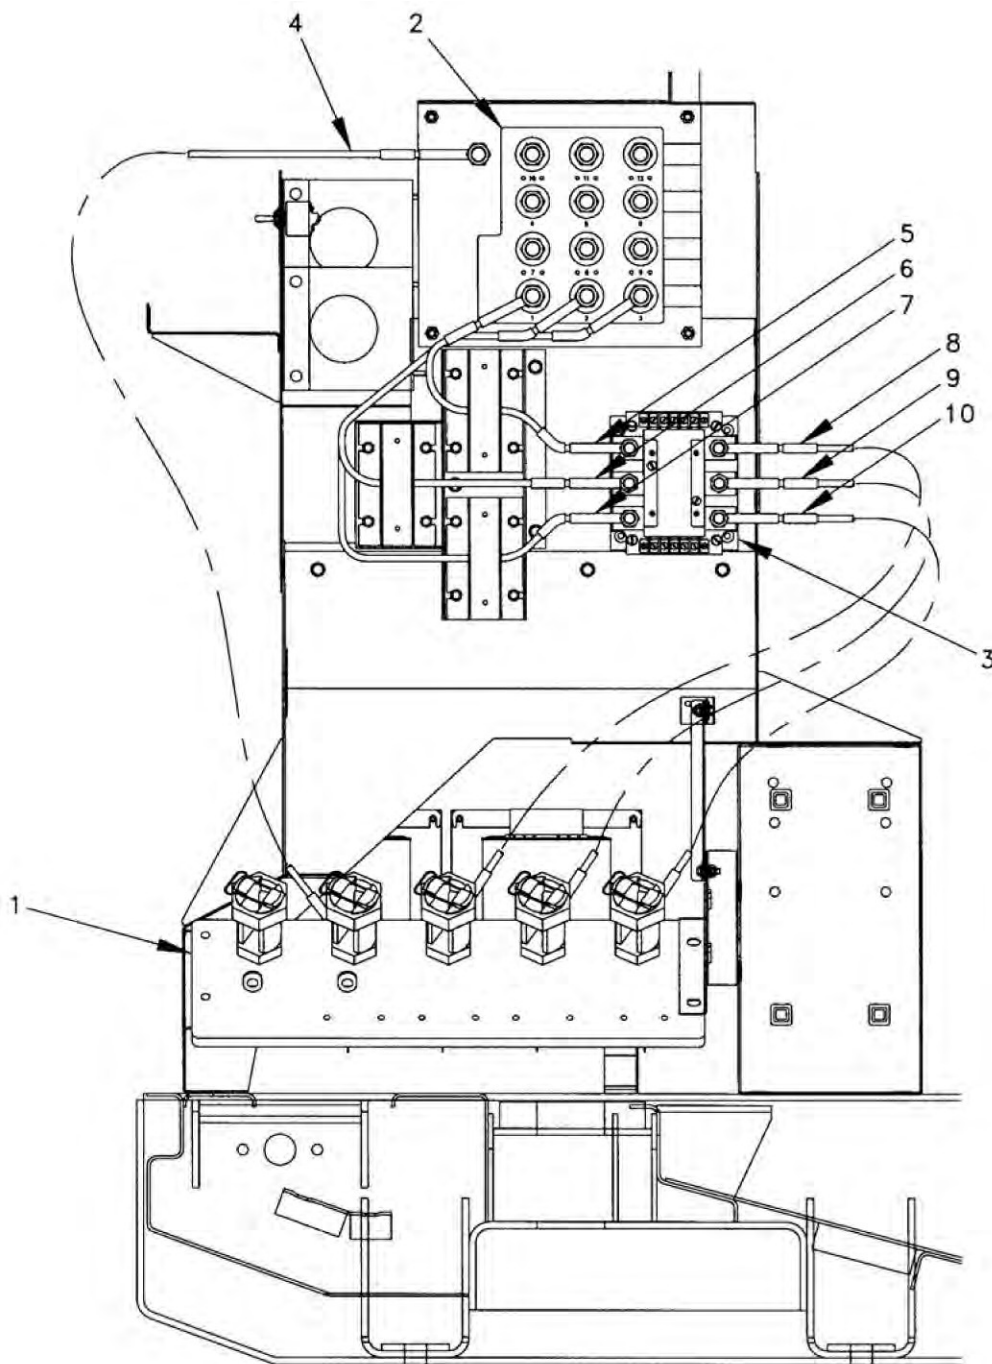

Figure 1. Power Cable Assemblies.
3. Partly remove load terminal board assembly (Figure 1, Item 1), (WP 0044) sufficiently to gain access to rear of load terminal board assembly.
4. Partly remove reconnection terminal board (Figure 1, Item 2), (WP 0043) sufficiently to gain access to rear of reconnection terminal board.
5. Remove two plates from front of main load contactor (Figure 1, Item 3), (WP 0047) to gain access to cable terminals on front of main load contactor.
6. Tag and disconnect cable 110K (Figure 1, Item 4) from terminal 13 on reconnection terminal board (Figure 1, Item 2) and terminal N on load terminal board assembly (Figure 1, Item 1).
7. Tag and disconnect cable 101A (Figure 1, Item 5) from terminal 1 on reconnection terminal board (Figure 1, Item 2) and from terminal A1 on main load contactor (Figure 1, Item 3).
8. Tag and disconnect cable 102A (Figure 1, Item 6) from terminal 2 of reconnection terminal board (Figure 1, Item 2) and from terminal B1 on main load contactor (Figure 1, Item 3).
9. Tag and disconnect cable 103A (Figure 1, Item 7) from terminal 3 on reconnection terminal board (Figure 1, Item 2) and from terminal C1 on main load contactor (Figure 1, Item 3).
10. Tag and disconnect cable 121A (Figure 1, Item 8) from terminal A2 on main load contactor (Figure 1, Item 3) and from terminal L1 on load terminal board (Figure 1, Item 1).
11. Tag and disconnect cable 122A (Figure 1, Item 9) from terminal B2 on main load contactor (Figure 1, Item 3) and from terminal L2 on load terminal board (Figure 1, Item 1).
12. Tag and disconnect cable 123A (Figure 1, Item 10) from terminal C2 on main load contactor (Figure 1, Item 3) and from terminal L3 on load terminal board (Figure 1, Item 1).
1. Remove tags and connect cable 123A (Figure 1, Item 10) to terminal L3 on load terminal board (Figure 1, Item 1) and to terminal C2 on main load contactor (Figure 1, Item 3).